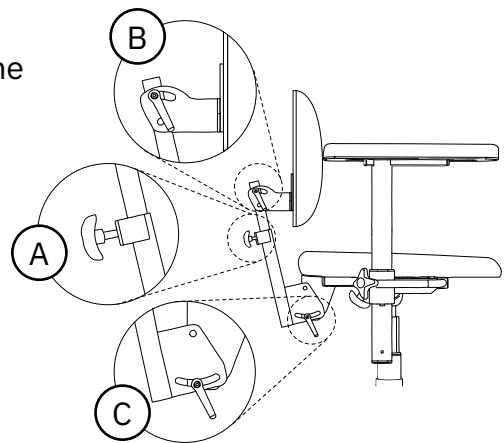

Figure 5.26. Standard backrest mechanism.
Standard can be adjusted in height (A), angle of backrest (B) and angle of back recliner (C), see Figure 5.26. The back recliner can be adjusted in the range of 15° forward to 30° backwards.